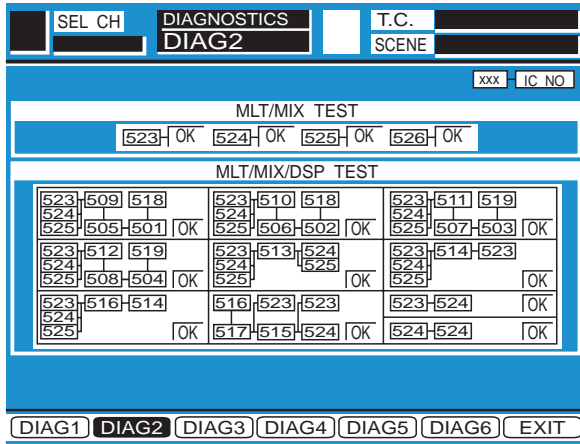

Fig. 5-1
- Press the Enter Key, the Diagnostic Menu 2 as shown in Fig. 5-1 is displayed.
- Referring to Fig. 5-1, select the MLT/MIX TEST Item by either UP or DOWN Cursor.
- Referring to Fig. 5-1, select the MLT/MIX/DSP TEST Item by either UP or DOWN Cursor.